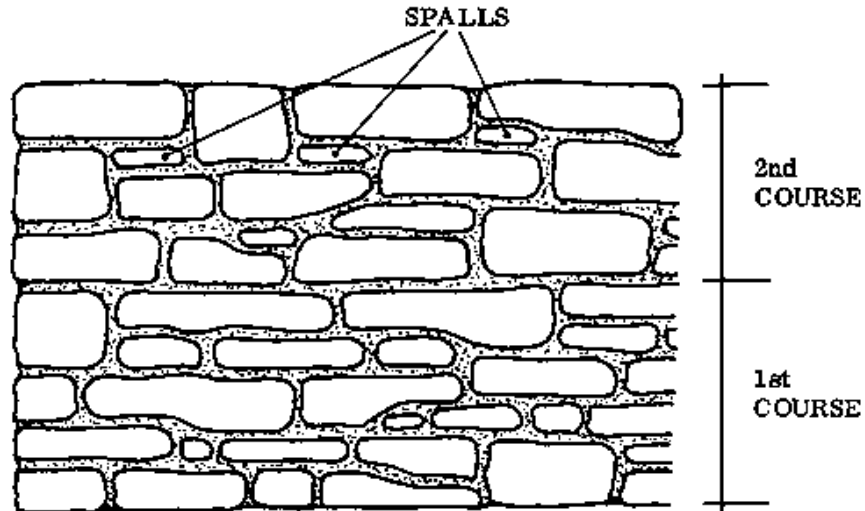

Fig. 1 ROUGH STONE MASONRY
- **ROUGH STONE MASONRY:** This sort of masonry consists of natural stones which are shaped only slightly along their bed faces, or not shaped at all. As in boulder masonry, regular courses are not seen because of the irregularly shaped stones (Fig. 1).